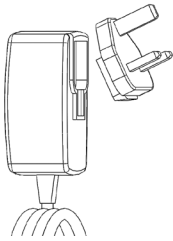

Figure No. 1 - Power Supply
**A/C Power Supply** ..... (See Figure No. 1 – Power Supply)